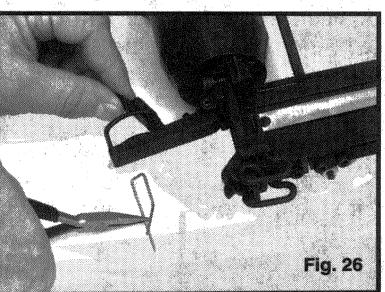

Fig. 26
4. Remove the jammed fastener (see Fig. 26).